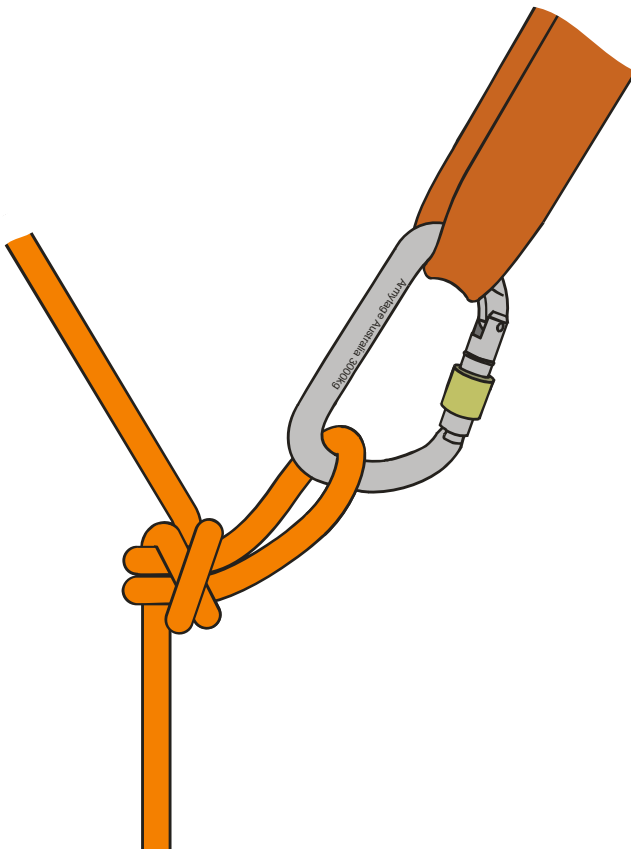

Fig 72. Alpine Butterfly used in vertical rescue rigging
- An excellent vertical rescue rigging knot as shown in *figure 72*.